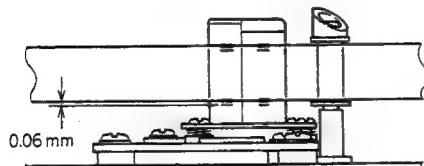

Fig. 2-49 Audio/control head height
9. Carefully and evenly adjust screws **(A)**, **(B)** and **(C)** to align the audio/control head height with the tape as shown in Fig. 2-49.